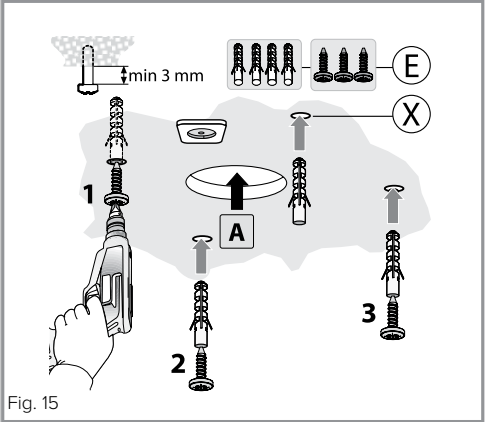

Fig. 15
2. Fit three screws into the holes leaving at least 3mm proud, as per Fig. 15. Note that a fourth screw (X in Fig. 15) should not be fitted yet.
3. With the help of another individual, locate the extractor on the three exposed ceiling screws and rotate into position. Tighten the three screws and then secure the whole assembly into position using a final screw in hole 'X' in Fig. 15.